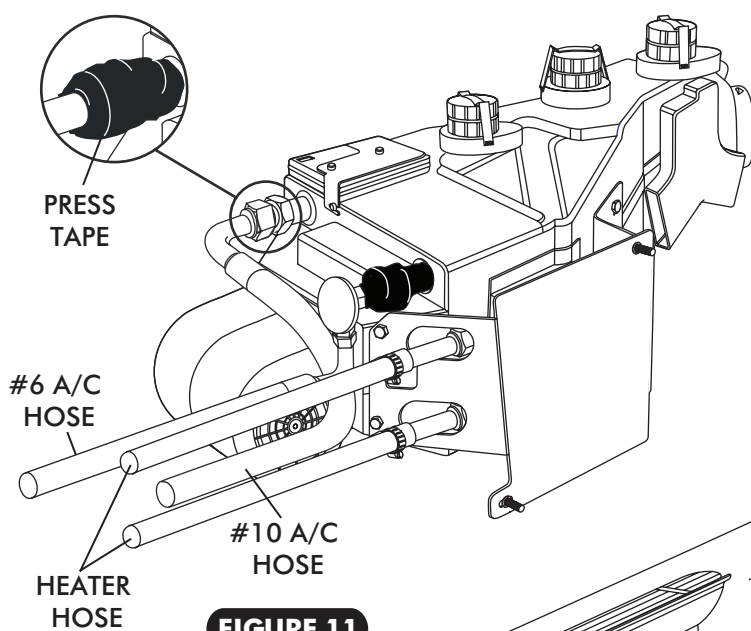
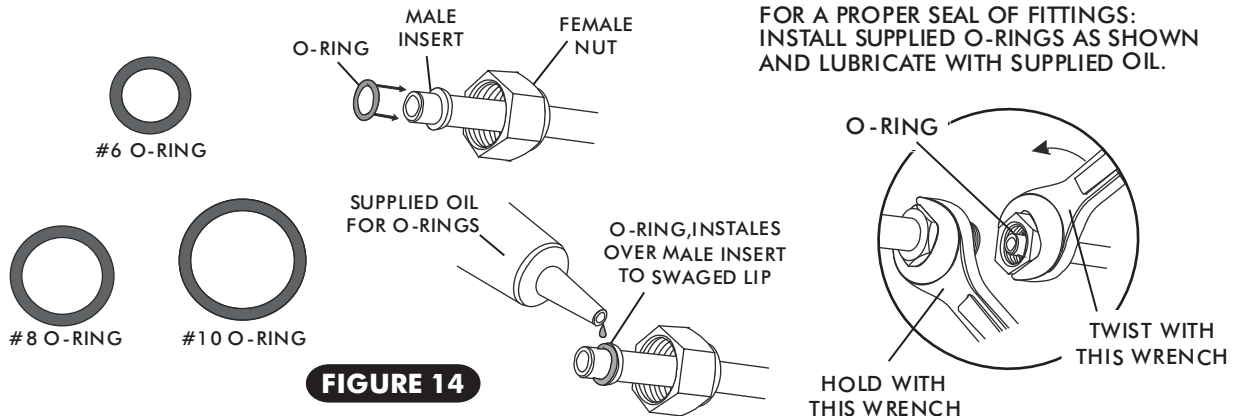

FIGURE 11
FIGURE 14
- ON A WORK BENCH INSTALL (2) HEATER FITTINGS WITH PROPERLY LUBRICATED O-RINGS. (SEE FIGURE 14, PAGE 13, AND FIGURE 8 PAGE 10.)
- LAY EVAPORATOR SUBCASE ON PASSENGER SIDE FLOOR BOARD. INSTALL A/C & HEATER HOSE ON EVAPORATOR AS SHOWN IN FIGURE 11, PAGE 12 AND HOSE INSTALLATION ON PAGE 14.
- **(NOTE: WRAP THE #10 FITTING CONNECTIONS WITH PRESS TAPE. SEE FIGURE 11, PAGE 12.)**
- ☐ LOCATE THE #8 COMPRESSOR A/C HOSE. LUBRICATE (2) #8 O-RINGS (SEE FIGURE 14, ABOVE) AND CONNECT THE 90° FEMALE FITTING TO THE #8 DISCHARGE PORT ON THE COMPRESSOR. ROUTE THE 45° FEMALE FITTING w/ 134a SERVICE PORT TO THE #8 CONDENSER HARDLINE COMING THROUGH CORE SUPPORT. SEE FIGURE 15 PAGE 14. TIGHTEN EACH FITTING CONNECTION AS SHOWN IN FIGURE 14 ABOVE.
- ☐ LOCATE THE #10 COMPRESSOR A/C HOSE. LUBRICATE (2) #10 O-RINGS (SEE FIGURE 14, ABOVE) AND CONNECT THE #10 45° FEMALE FITTING w/134a SERVICE PORT TO THE #10 SUCTION PORT ON THE COMPRESSOR. ROUTE THE 90° FEMALE FITTING TO THE #10 EVAPORATOR. SEE FIGURE 11 PAGE 12 AND FIGURE 15 PAGE 14. TIGHTEN EACH FITTING CONNECTION AS SHOWN IN 14 ABOVE.
- ☐ LOCATE THE #6 EVAPORATOR A/C HOSE. LUBRICATE (2) #6 O-RINGS (SEE FIGURE 14, ABOVE) AND CONNECT THE 90° FEMALE FITTING TO THE DRIER. ROUTE THE 90° FEMALE FITTING TO THE #6 EVAPORATOR. SEE FIGURE 11, PAGE 12 AND FIGURE 15 PAGE 14. TIGHTEN EACH FITTING CONNECTION AS SHOWN IN FIGURE 14, ABOVE.
- ROUTE A PIECE OF HEATER HOSE FROM THE WATER PUMP TO THE TOP HEATER FITTING OF HEATER CORE AS SHOWN IN FIGURE 11 PAGE 12 AND FIGURE 15 BELOW. SECURE USING HOSE CLAMPS
- ROUTE A PIECE OF HEATER HOSE FROM THE INTAKE TO THE BOTTOM HEATER FITTING OF HEATER CORE AS SHOWN IN FIGURE 11 PAGE 12 AND FIGURE 15 BELOW. NOTE: INSTALL HEATER CONTROL VALVE IN-LINE WITH INTAKE MANIFOLD (PRESSURE SIDE) HEATER HOSE, SECURE USING HOSE CLAMPS AS SHOWN IN FIGURE 15, BELOW. **NOTE: PROPER FLOW DIRECTION.**